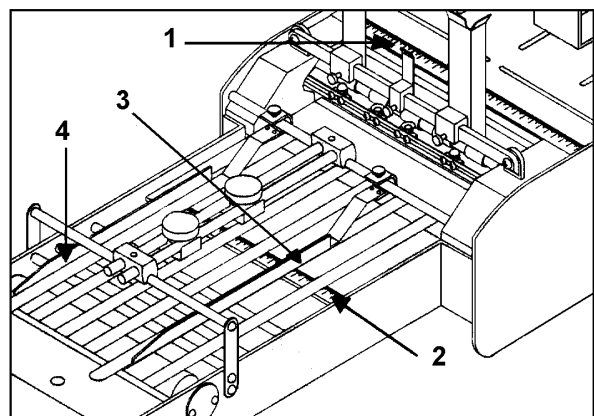

Figure 8
11. Using scale on Feeder floor [#1, Fig. 8], and scale on Conveyor [#2, Fig. 8], roughly adjust Stop Guide [#4, Fig. 8], and Push Guide [#3, Fig. 8], so envelope coming down will clear them.